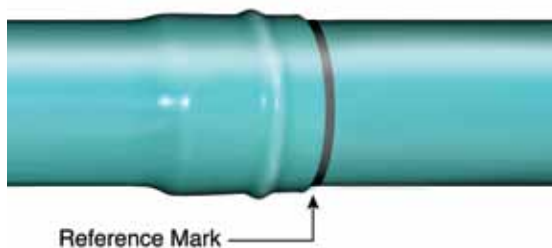

Figure 10
4. Insert the beveled spigot end into the bell so that it is in contact with the gasket. Hold the pipe lengths being joined close to the ground (see Figure 9) and keep the lengths in proper alignment. Brace the bell, as shown, while the spigot end is inserted under the gasket, so that previously completed joints in the line will not be closed up or over-assembled. Push the spigot end in until the reference mark on the spigot end is flush with the end of the bell. (See Figure 10.) Stabbing is not recommended and should be avoided to prevent damage to the gasket and joint.